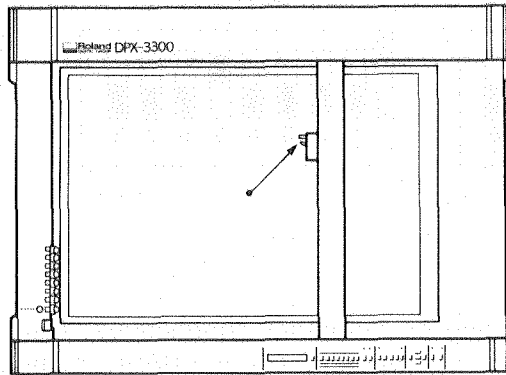

Fig. 9-3
- (a) the pen carriage operates as shown in Fig. 9-3 and
- (b) the pen carriage operates as shown in Fig. 9-3 and